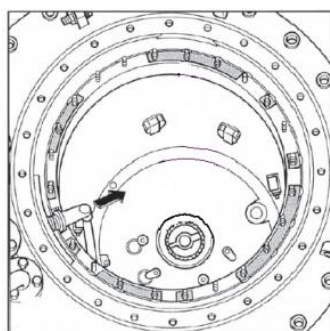

Figure 25
- (5) Take down the oil suction pipe, pull out the connection bending pipe (Fig. 25) which inserted into the head flange, pay attention to do not damage the O seal ring of the bending pipe.